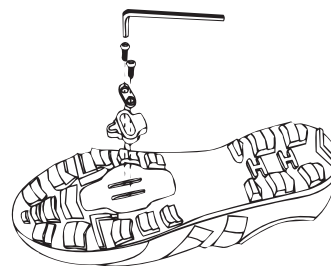

Figure 3
3. Line up the threaded bolt holes of the cleat washer over the double channels inside the sole of the shoe. (Fig. 3)